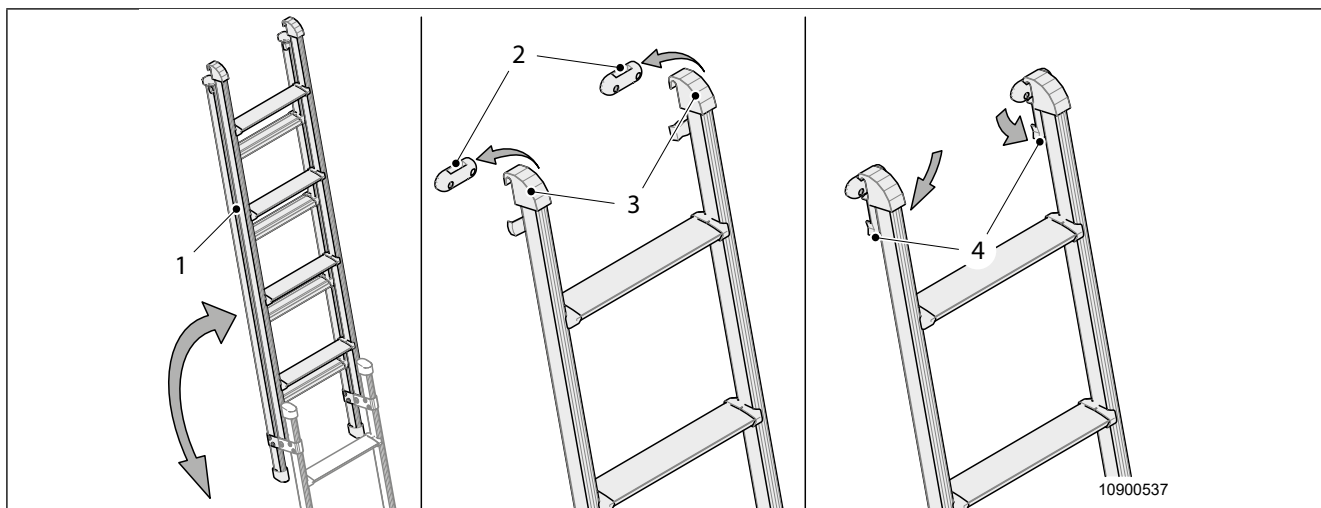

Fig. 36 Attaching the ladder
1. Extend the ladder (Fig. 36, item 1) completely.
2. Hook the ladder into the ladder holder (Fig. 36, items 2 and 3) on the roof frame and close the catches (Fig. 36, item 4).